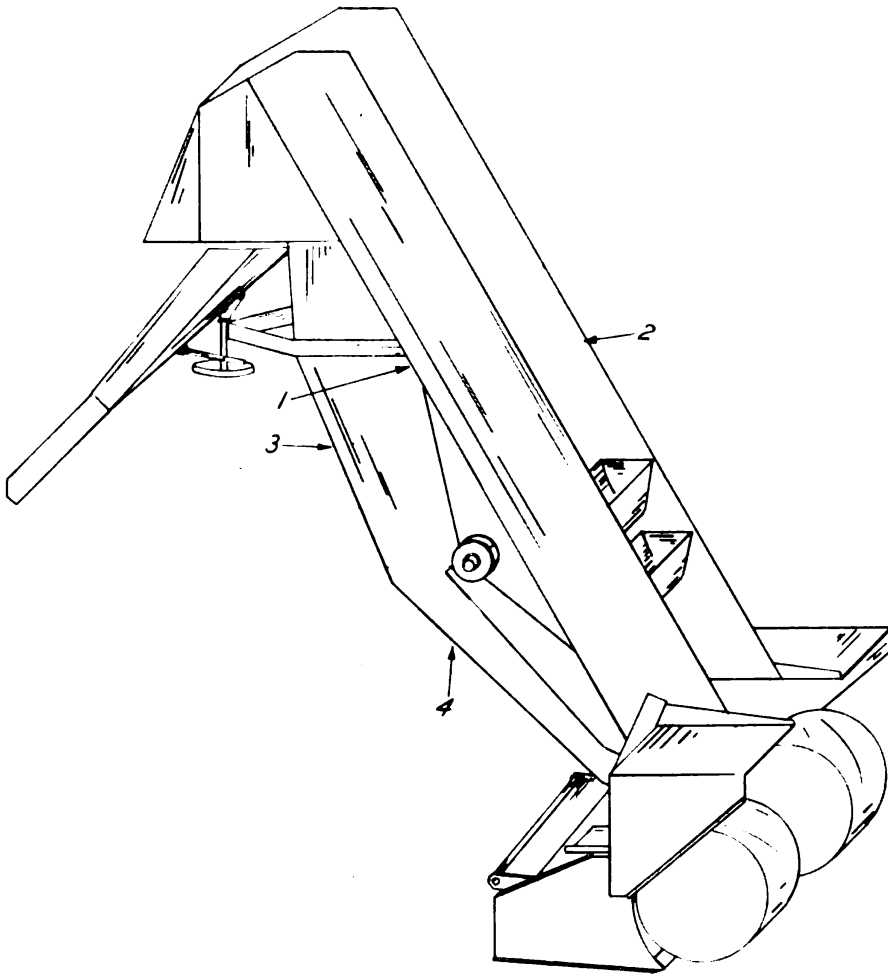

Figure 80. Bucket elevator.
The bucket elevator frame (1) Figure 80 has assembled on it all the parts which make up the elevator unit.
To protect the operator and prevent bucket spillage from falling on the loader mechanism the down run side of the bucket is housed (3) Figure 80 half way down. Return pans (4) run the full length of the down run side to carry all spillage back to the feeding end. The two sides of the housing bolt to the elevator frame on the under side.